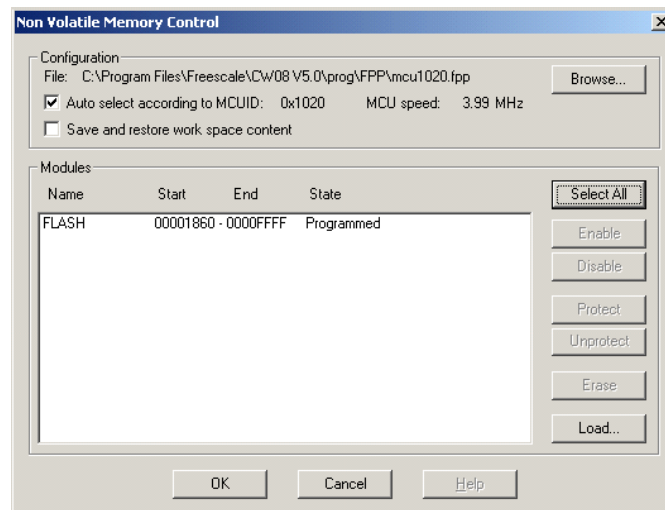

Figure 16. Non Volatile Memory Control Dialog Box
- The "Non Volatile Memory Control" dialog box opens as shown in Figure 16.